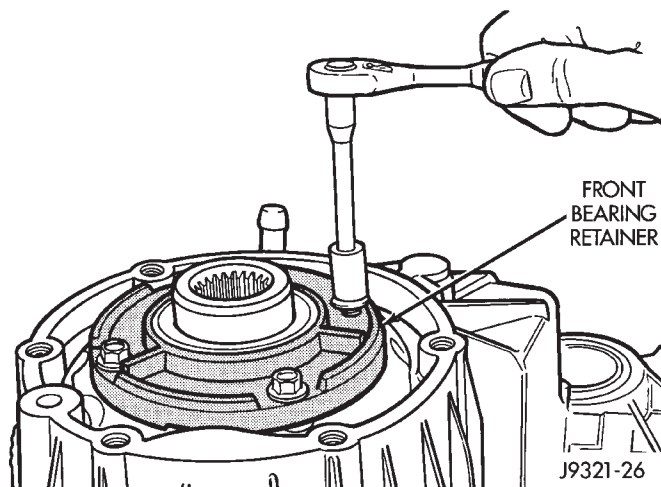

Fig. 67 Front Bearing Retainer Installation
(48) Apply 3 mm (1/8 in.) wide bead of Mopar Gasket Maker, silicone adhesive sealer, or Loctite 518 to mating surface of front bearing retainer. Allow sealer to set-up slightly before installing retainer.
(49) Install front bearing retainer (Fig. 67). Tighten retainer bolts to 16-24 N·m (12-18 ft. lbs.) torque.